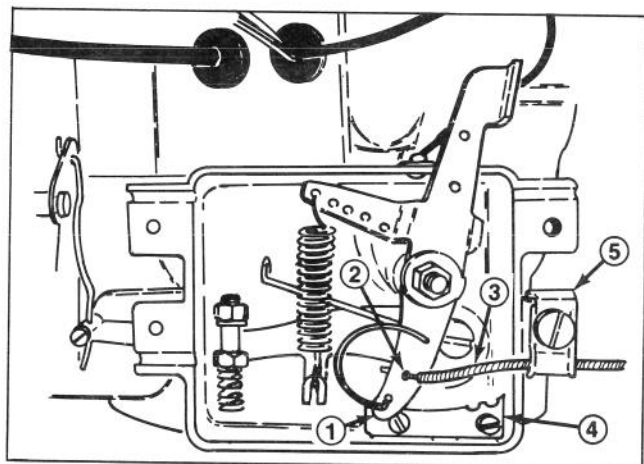

Figure 3
3. Hook wire Z-bend into upper hole in governor arm (Fig. 3).
5. Locate governor arm in "fast" position on detent bar (Fig. 3). Tighten cable clamp.